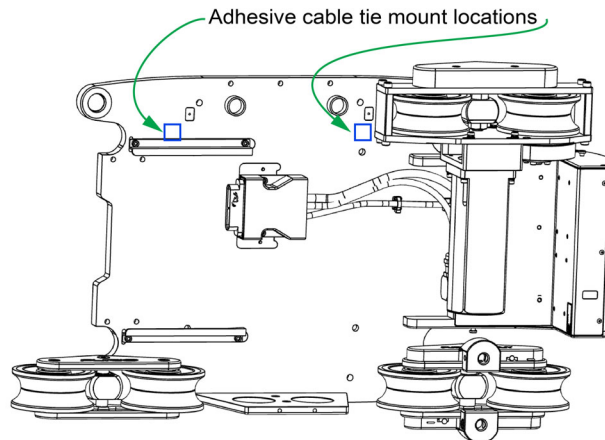

Figure 23 - Adhesive Cable Tie Mount Locations
1. Place one adhesive cable tie mount from the Retrofit Kit against the dolly base shown in **Figure 23**.
- Place the other adhesive cable tie mount just above the hole shown in **Figure 23**, ensuring both mounts are perfectly in line with one another.
Tip: Position the adhesive cable tie mounts directly in line with the screw heads as shown in **Figure 23**, ensuring there is enough room for the StableTrac arm and that they **do not** rest underneath it.